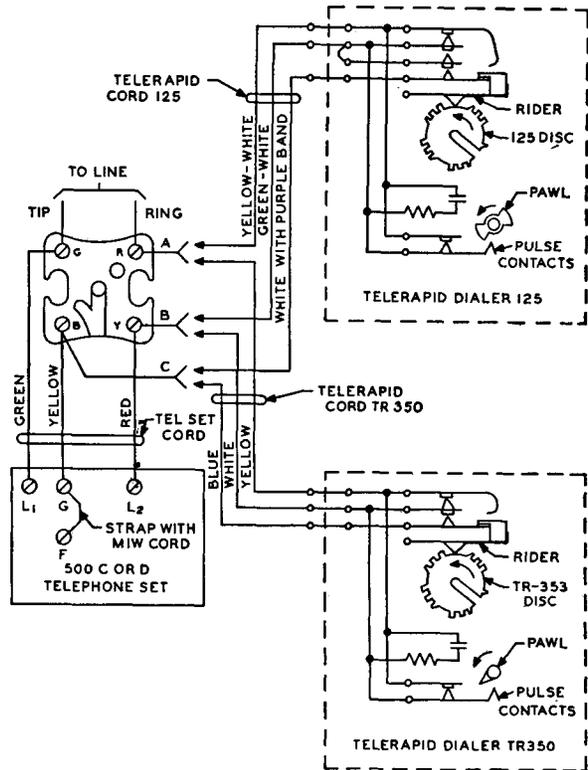

Fig. 7—Telerapid Dialers 125 and TR350 for 500-type Telephone Set
4.02 Figs. 7 through 11 show the connections necessary at the most common installations.
Cord and Plug	CORD, EQUIPPED WITH PLUG FOR TELERAPID 125 OR TR350. Both the 125 and TR350 Telerapid cords are covered with black fabric and are about 5 feet long equipped with plugs at one end and spade tips at the other end. Each cord can be interchanged in either Telerapid. (See Fig. 7.)